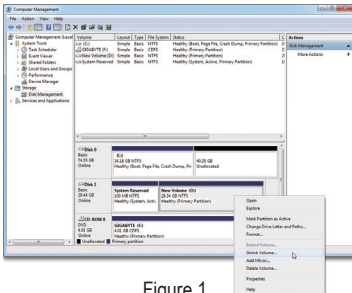

Figure 1
Step 2: Select the SSD on which you want to create the store partition (if the SSD is unallocated, create a new partition first), and right-click on the partition you select and select **Shrink Volume**. (Figure 1)